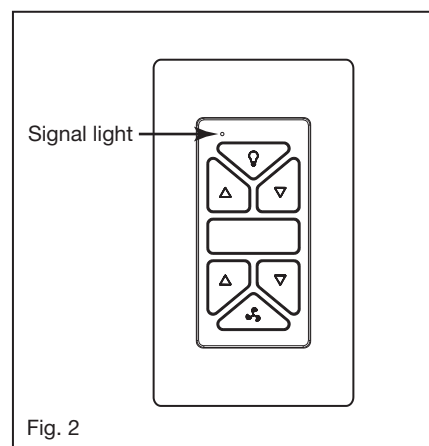

Fig. 2
- 3 Loosen the two security set screws and remove the downrod pin and cotter pin from the coupling on top of the motor assembly. (Fig. 2)
- 2 Seat the cradle A into the wall plate. (Fig. 2)
- 5 Signal light (Fig. 2)